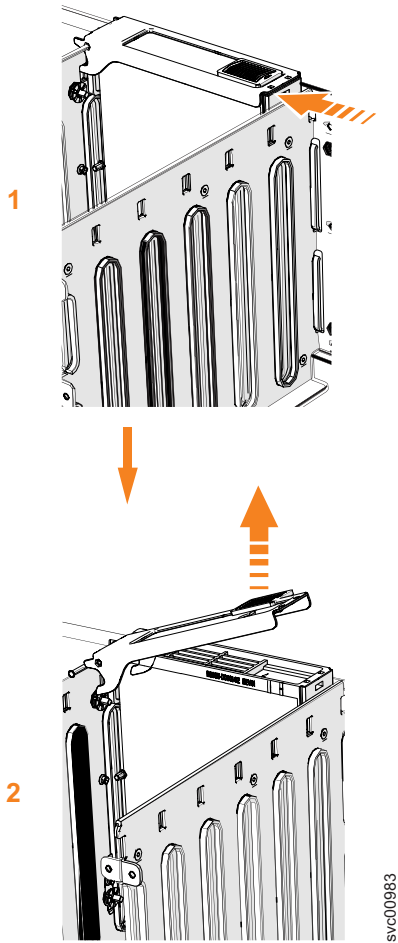

Figure 63. Remove the drive assembly
- Slide the release latch forward ( **1** ), as shown in Figure 63 on page 207.
6. Lift the handle ( **2** ) to unlock the drive carrier from the partition, as shown in Figure 63. Ensure the toe on the bottom of the latch is fully disengaged.